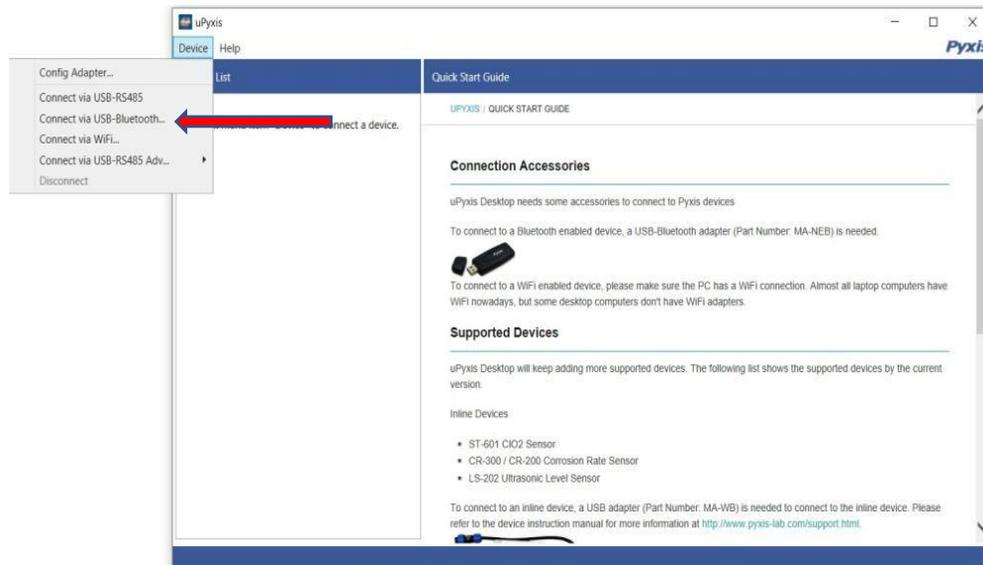

Figure 19.
4. On **uPyxis®** Desktop App, click Device → **Connect via USB-Bluetooth** (Figure 19).
5. If the connection is successful, the SP-395N and its Serial Number (SN) will be displayed in the left pane of the **uPyxis®** window.